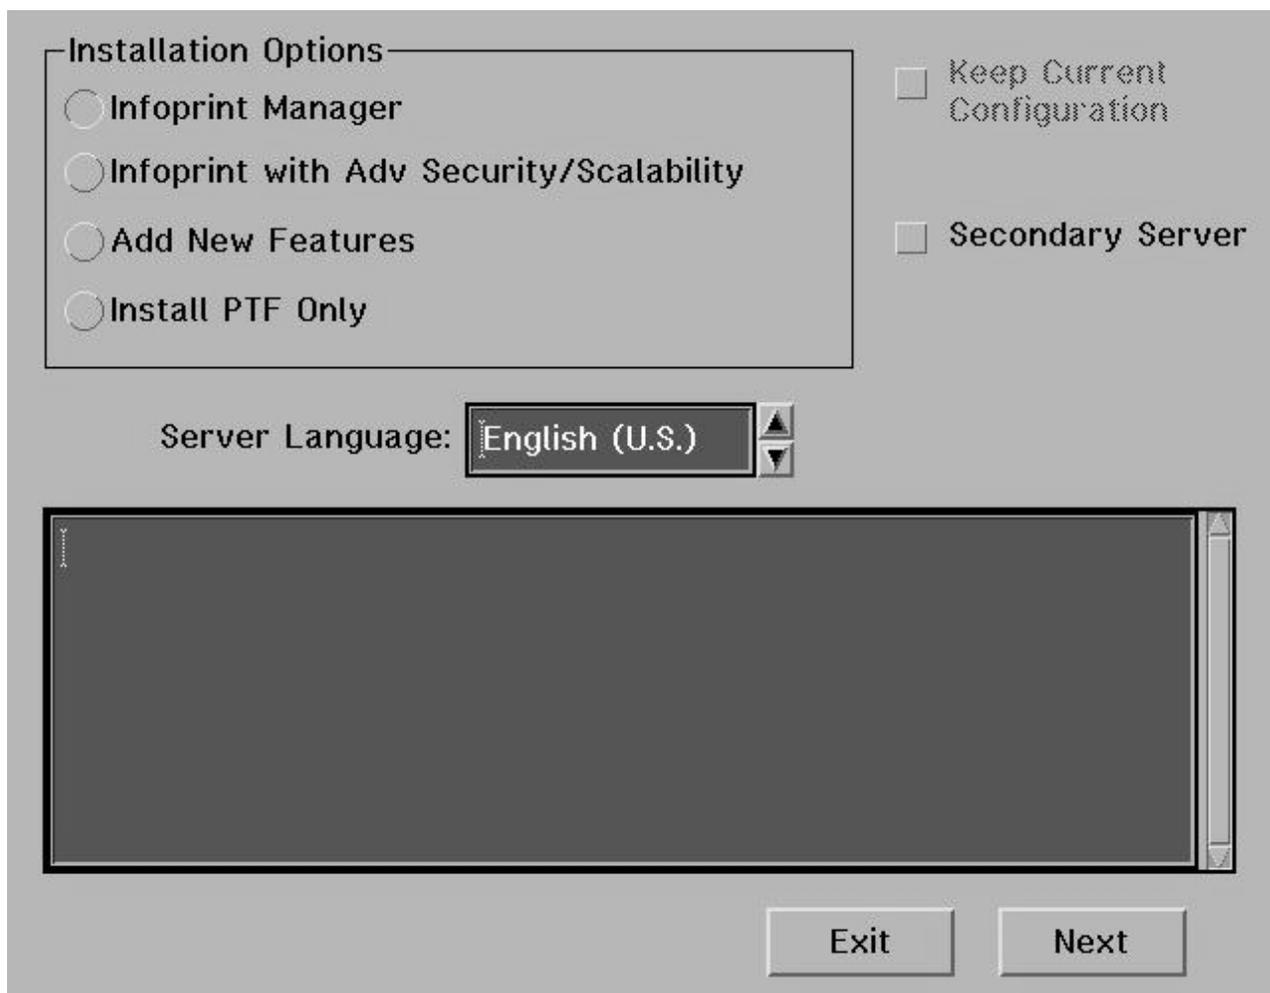

Figure 4. Infoprint Installer: Installation Options panel
3. The Installer displays the **Installation Options** panel (Figure 4). This panel allows you to click on the **Infoprint Manager** radio button to select a first-time install of Infoprint Manager for AIX 4.1.